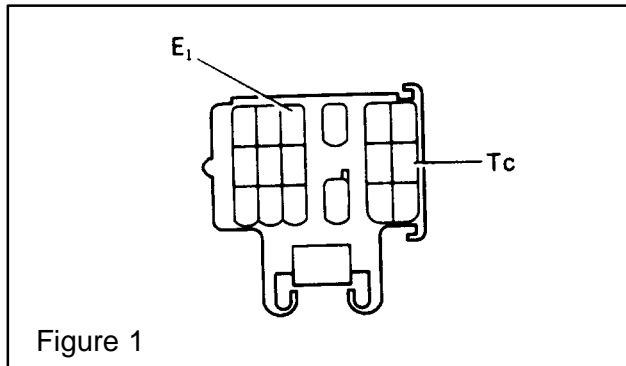

Figure 1
- Connect terminals Tc and E1 of the Diagnostic check connector (figure 1) together with SST 09843-18020.